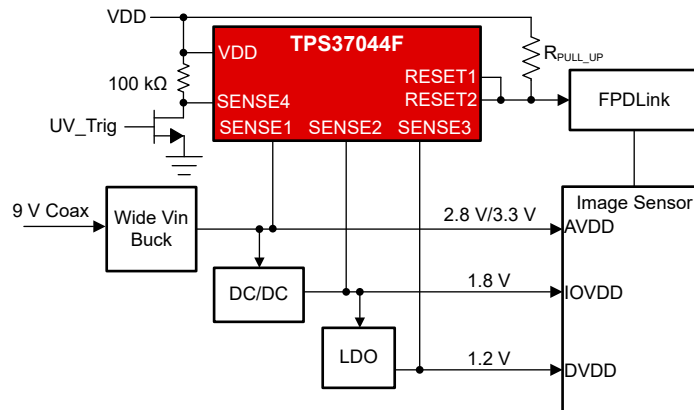

图 9-4. TPS37044F Quad-Channel Monitoring With Manual Self-Test Option for Functional Safety
图 9-4 displays a self-test scheme where a manual self-test function can be implemented. Any SENSEx pin can be reserved and used to trigger a fault to be observed at the output, thus pre-checking the TPS3704 for fault detection. TPS3704 is a functional safety compliant multichannel supervisor and enables applications such as factory automation and motor drive achieve IEC 61508 requirements and industrial safety integrity levels. This example uses a TPS37044F, configured for separate undervoltage and overvoltage (UV/OV) outputs where the SENSE4 thresholds are set at 5.5 V for OV and 2 V for UV.
图 9-4 shows a self-test scheme where a manual self-test function can be implemented. SENSE4 has an overvoltage (OV) threshold that is set at 5.5 V and the undervoltage (UV) threshold set at 2 V. SENSE4 can be connected via a 100-k Ω resistor to VDD. The self-test setup gives the added benefit of a built-in overvoltage detector for the rail powering the TPS37044F. From a functional safety perspective, a voltage supervisor cannot be considered reliable if the supervisor is operating outside its recommended operated limits.